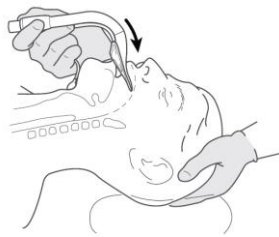

Figure 8: Press the cuff further into the mouth, maintaining pressure against the palate.
4. Slide inwards using a slightly diagonal approach (direct the tip away from the mid-line). (Fig. 8)